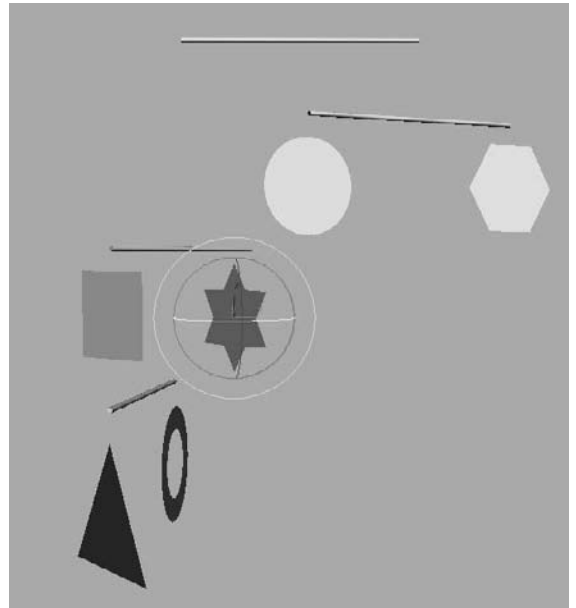

Figure 8.8
- Select the triangle and repeat steps 2 and 3 to assign a TCB Rotation controller to the triangle. Do the same for the star. Figure 8.8 shows the proper rotations of the shapes and the bars—but looks are deceiving. We're not done yet!